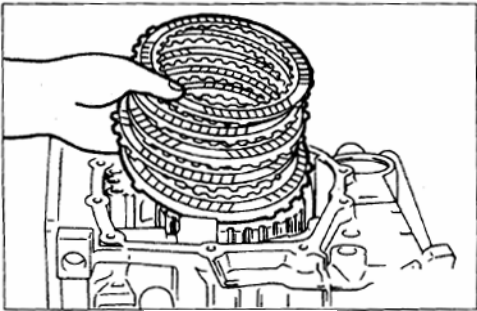

Fig 11A-84
(31) Install snap ring. See Fig.11A-85。